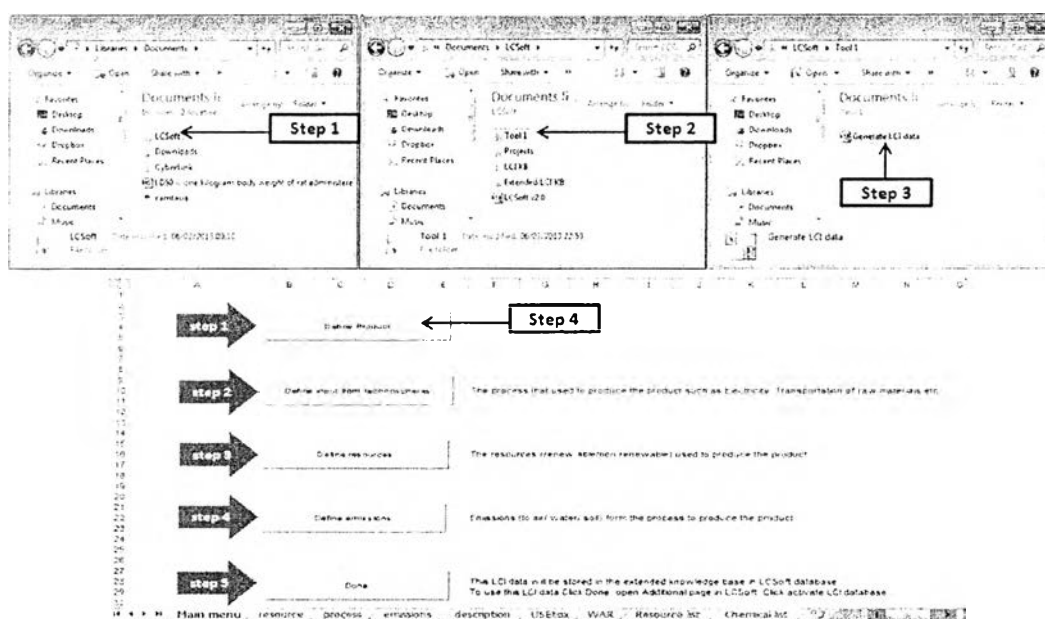

Figure A.44 Steps to generate LCI data
Step 1: Open LCSoft folder (Figure A.44)